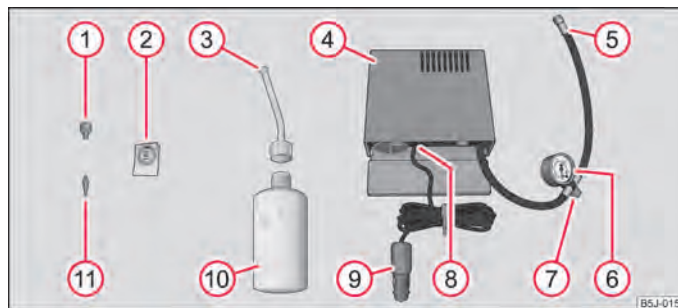

Fig. 146 Components of the tyre repair kit
- Stick the sticker **(2)** → fig. 146 on the dash panel in view of the driver.
- Forcefully shake the tyre inflator bottle **(10)** → fig. 146 several times.
- Screw the tyre inflation hose **(5)** → fig. 146 of the air compressor firmly onto the tyre valve.